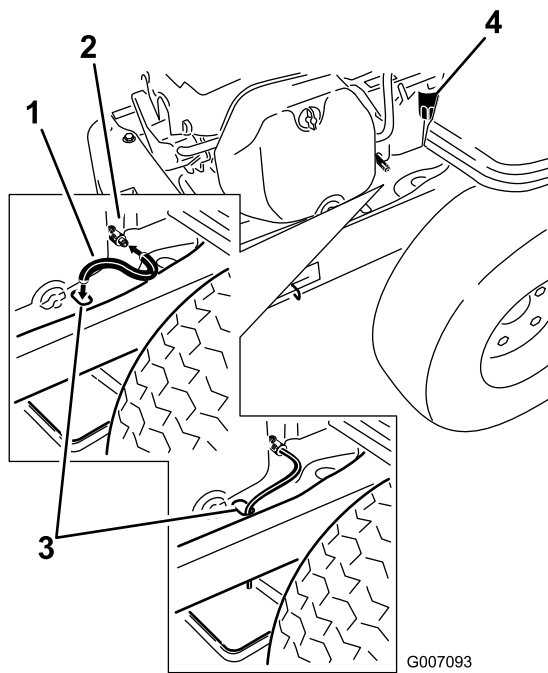

Figure 28
5. Clean the area around the drain valve and on the machine frame. Locate the oil drain hose and slide it over the drain valve (Figure 28).
6. Place the opposite end of the oil drain hose through the drain hole in the frame (Figure 28).